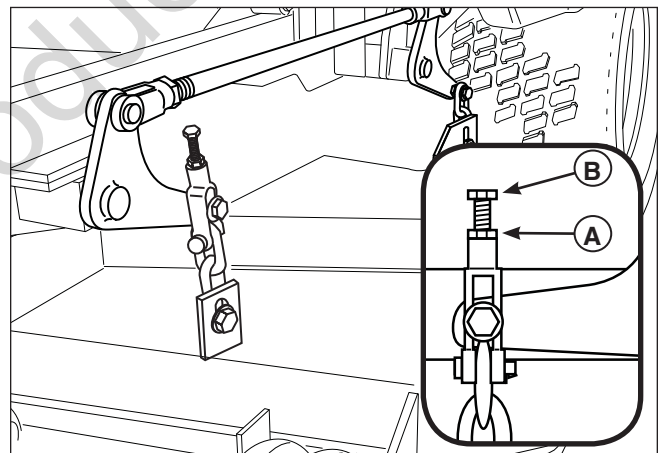

Figure 41. Fine Adjustment
1. Loosen the jam nut (A, Figure 41) and turn the fine adjustment bolt (B) to adjust the deck height until the front measurements equals 4" (10,2 cm). Turn the bolt CLOCKWISE to raise the deck; COUNTER-CLOCKWISE to lower the deck.